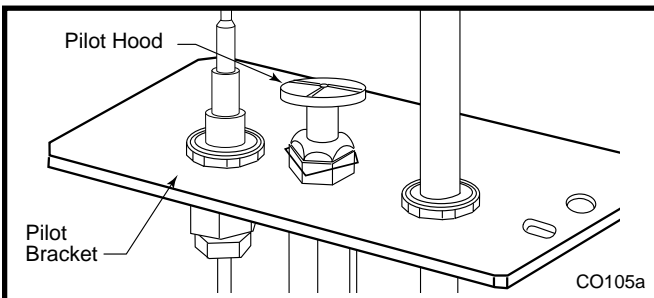

Fig. 59 Remove pilot hood.
- Remove pilot hood by lifting up. (Fig. 59) **NOTE:** It is not necessary to remove the pilot tube for conversion.